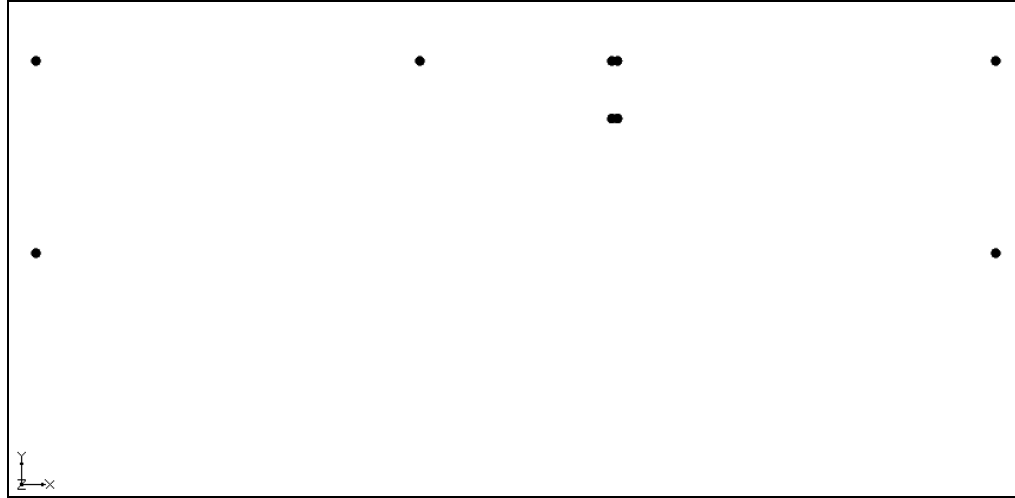

Figure 3 Points created in the profile lines coverage.
5. Click **Frame Image**  to center the view on the new points (Figure 3).